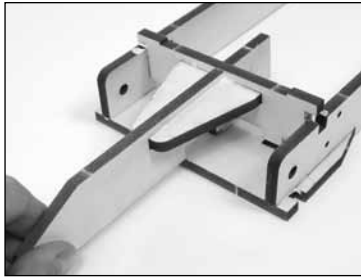

Figure 13
7. Glue the cross-shaped assembly on top of Parts N and H on one side of the trebuchet. The long end of the cross should point away from the middle of the trebuchet (Figure 13).